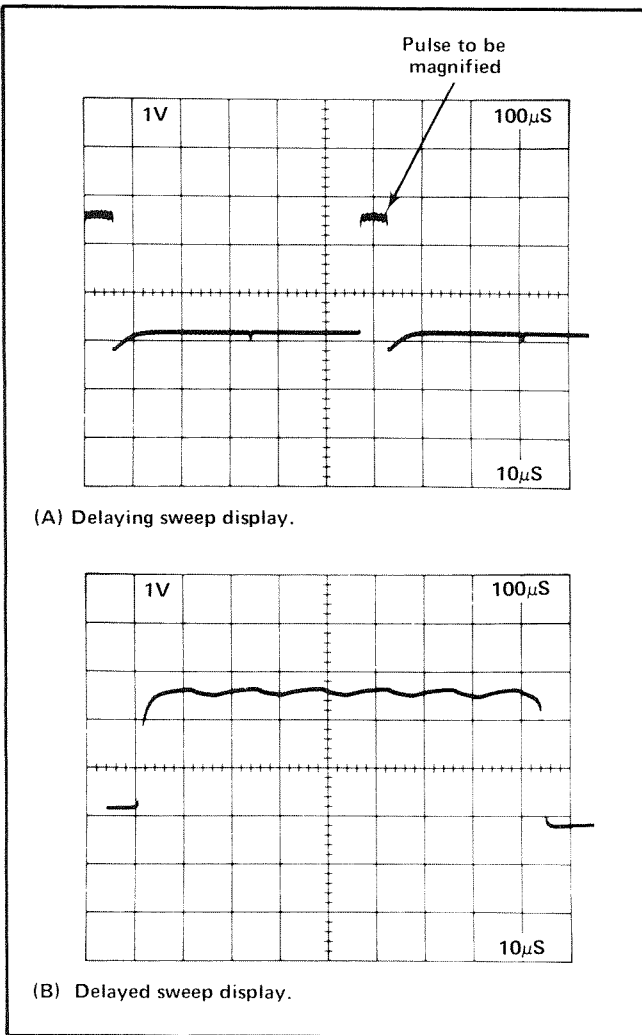

Fig. 2-14. Using delayed sweep for magnification.
**Example.** The apparent magnification of the display shown in Fig. 2-14 with a TIME/DIV OR DL'Y TIME setting of .1 ms and a DLY'D SWEEP Time/Divisions switch setting of 10 microsecond is: